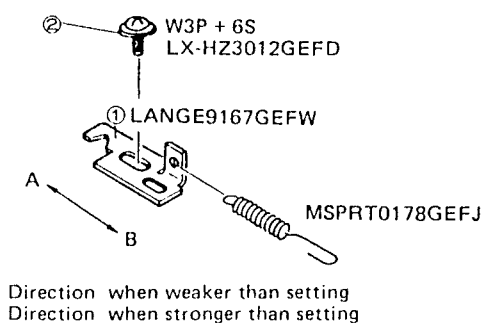

Figure 15.
- 1) Shift the tension arm spring angle ① toward arrow (A) in figure 15 and tighten it with screw ② (LX-HZ3012GEFD), when tape tension is less than the set value (50g to 57g. cm).
- 2) Shift the tension arm spring angle ① toward arrow (B) in figure 15 and tighten it with screw ② (LX-HZ3012GEFD), when tape tension is stronger than the set value (50g to 57g. cm).